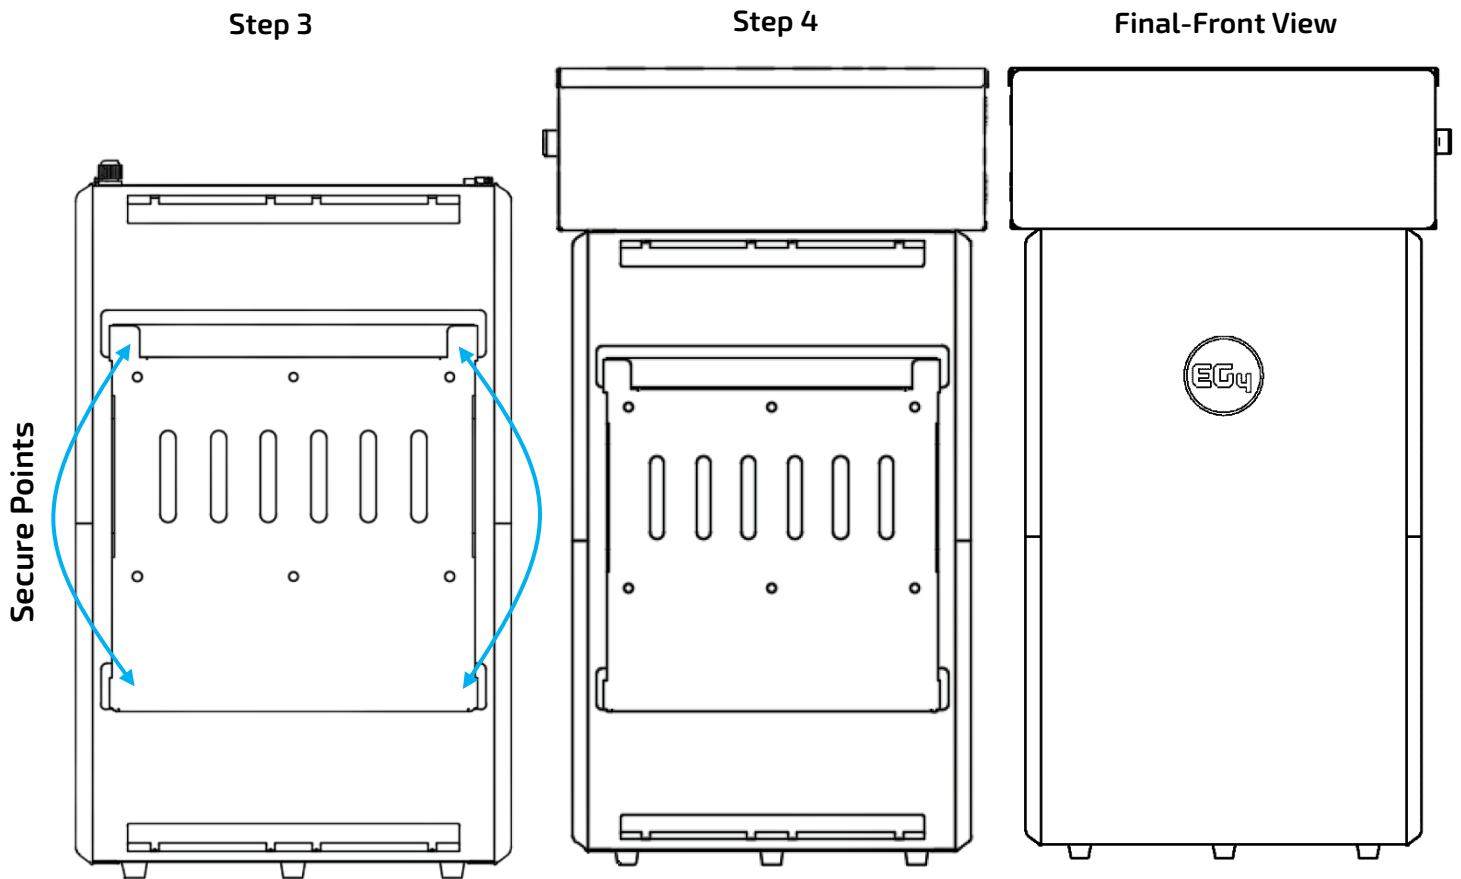

Figure 14 – WallMount Installation with Conduit Box Steps 3, 4 & 5
3. Attach the WallMount battery pack to the mounting bracket. To accomplish this, lift the battery up and hook the flange on the back of the battery into the flange on the front of the mounting bracket. Secure the battery to the mounting bracket with the 4 included side screws (see Figure 14)